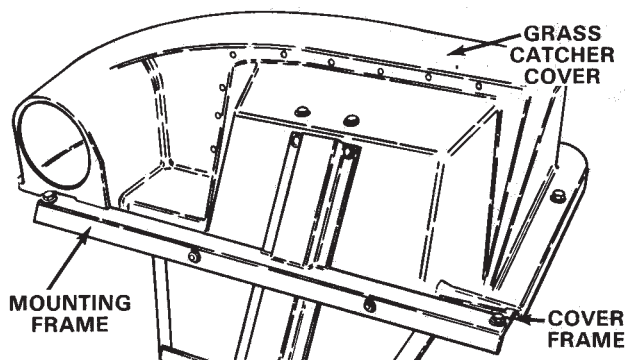

Figure 4
1. Loosely secure mounting frame to grass catcher cover with backup plate, 4 capscrews (5/16 x 1 in.), flat washers, and locknuts (Fig. 4 and 5). Position the washers on the outside of the grass catcher cover with the backup plate inside the cover.